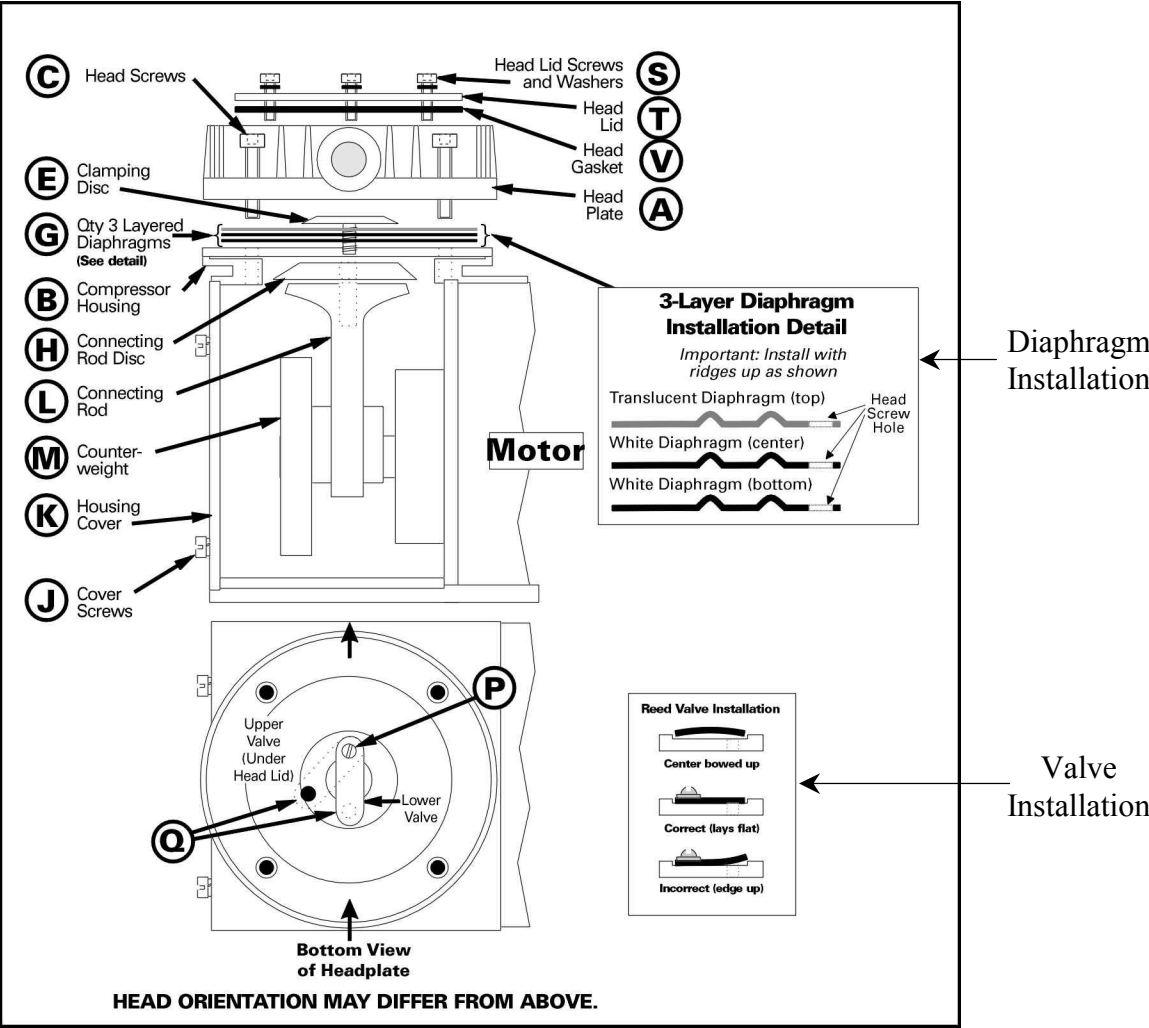

Figure E-1 Vacuum Pump – Head Plate and Motor View
Use the following procedure and Figure E-1 to replace the diaphragm.
5. Install the two PTFE (white color) diaphragms together with one TFM (translucent) diaphragm as shown in Figure E-1. Install with the ridges of the diaphragm convolutions as shown in the diaphragm stack cross-section inset.
Use the following procedure and Figure E-1 to replace the valve.